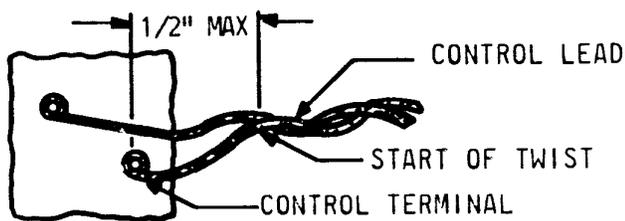

FIG.1
2.21 WHERE THE 4 TO 5 TWISTS PER INCH OF 30 GAUGE PAIRED WIRE IS SPECIFIED, THE FIRST TWIST SHALL START WITHIN 1/2" FROM THE CONTROL TERMINAL (SEE FIG. 1).